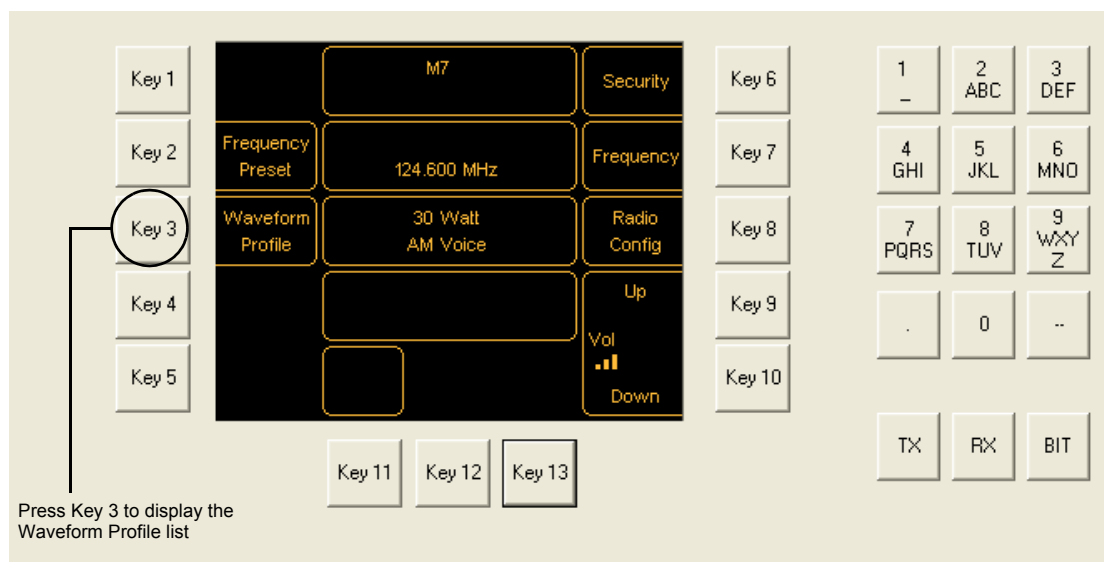

Fig 3-17 Select Waveform Profiles from the Home Screen
- (1) From the Home screen (Fig 3-17) press **Key 3** to display the list of Waveform Profiles.